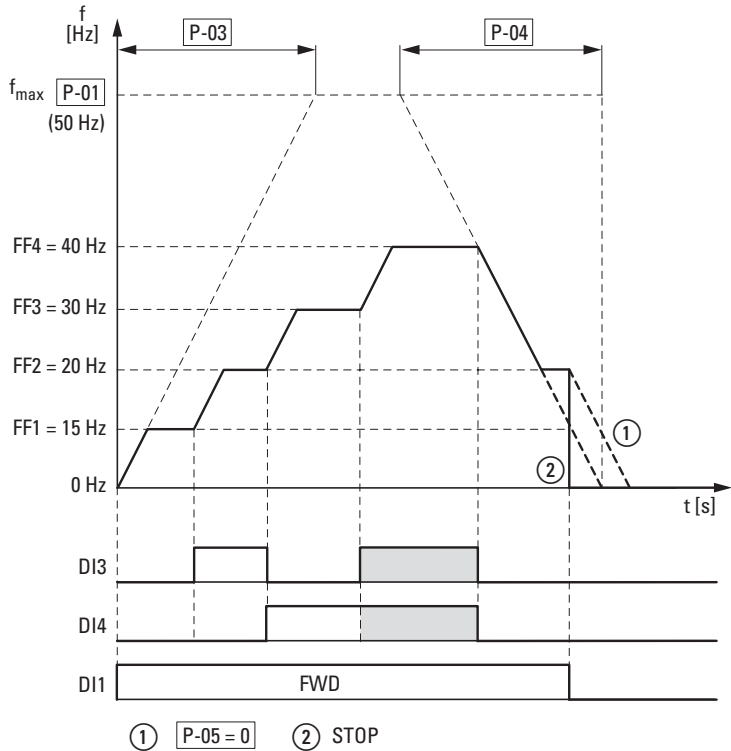

Figure 77: Example: Activation of the fixed frequencies with acceleration and deceleration ramps
The change between the individual fixed frequencies is done with the acceleration times and deceleration times set at P-03 and P-04. (→ Figure 77). When the FWD or REV enables are revoked, the output frequency is inhibited directly ② (coasting to halt). When P-05 = 0, the drive performs a controlled deceleration ①.